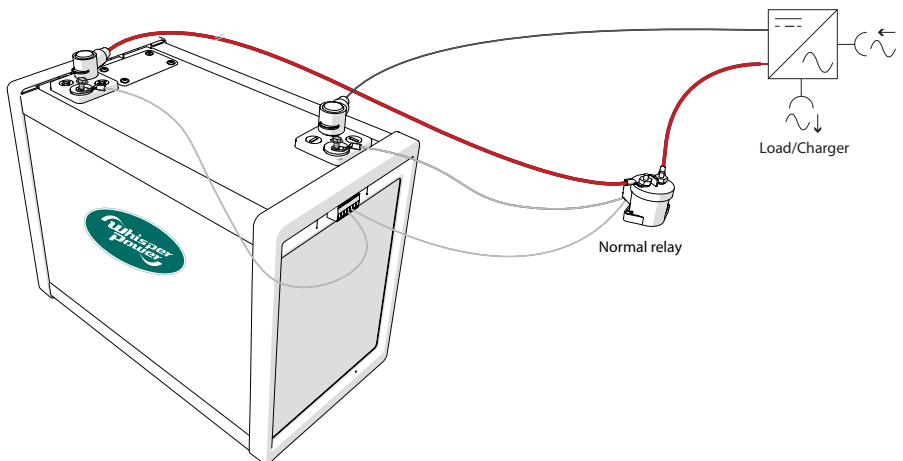

Figure 7. Connect a normal relay as Battery Disconnect device.
1. When using a normal relay, connect it to Con 2 (I/O Connection 7), Pin 4 (Rc) and Pin 5 (Rnc) as displayed in Figure 7.